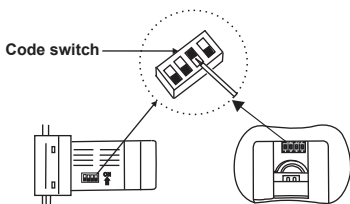

Figure 8
**NOTE:** This remote control unit is equipped with 16 code combinations to prevent possible interference from or to other remote units. The frequency switches on your receiver and transmitter have been preset at the factory. Please recheck to make sure the switches on transmitter and receiver are set to the same position, any combination of settings will operate the fan as long as the transmitter and receiver are set to the same position. (Figure 8)